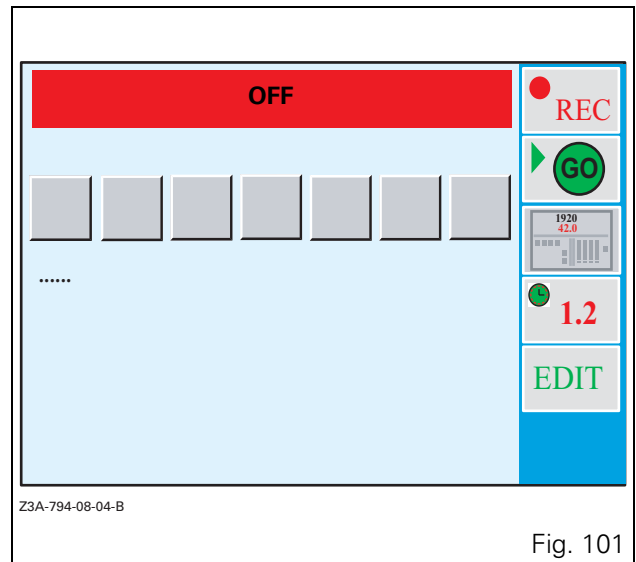
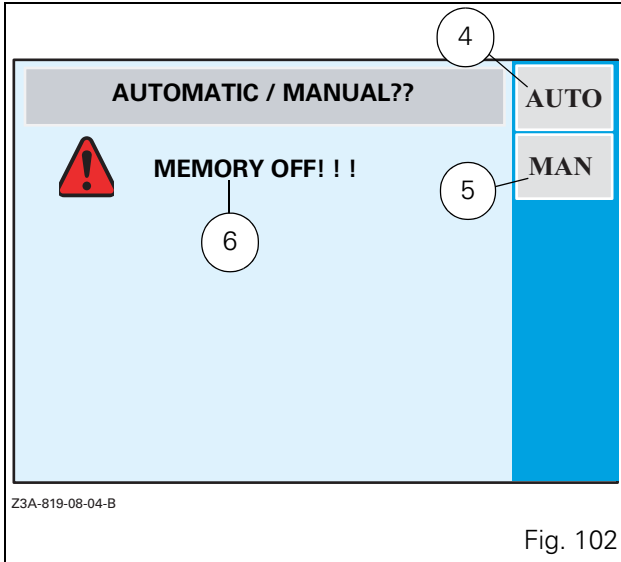

Fig. 101
Fig. 102
- Rotate the encoder (1) to the **HEADLAND** application and press the encoder once the active function is highlighted by red text and a red rectangle around the icon. Or press the key «₃ (2). The window (Fig. 101) is displayed.
- To exit an application, press the **ESC** key (3).
To record a sequence, press the key \llcorner_1 (REC) when the window (Fig. 101) is open. The recording window (Fig. 102) is displayed.